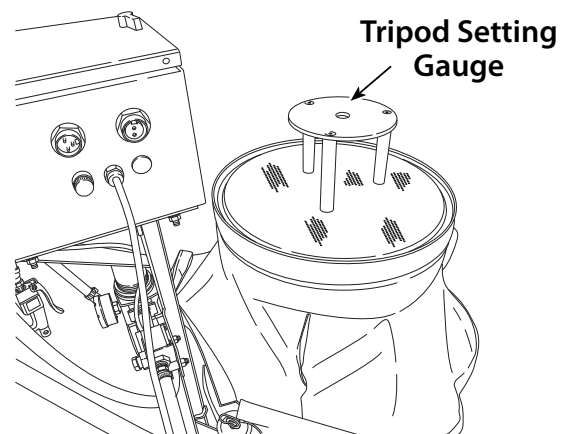

Figure 8
4. Place the Tripod Setting Gage on the top center of the DPF. (Figure 8)